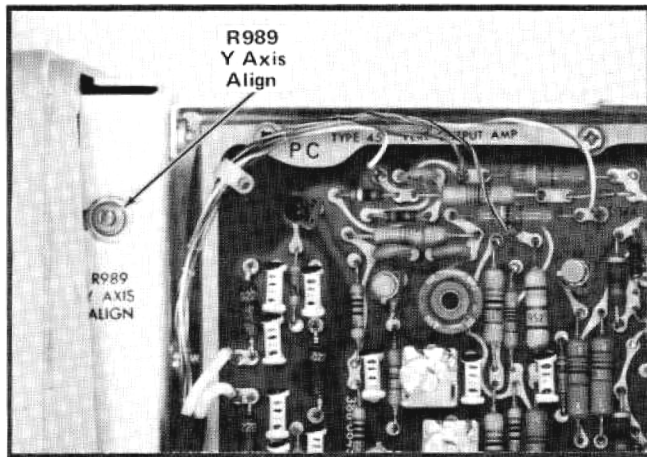

Fig. 5-7. Location of Y Axis Align adjustment (left side of instrument).
- d. ADJUST—Y Axis Align adjustment R989 (see Fig. 5-7) to align the markers with the center vertical line.